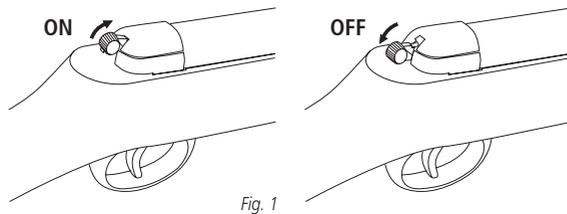

Fig. 1
- To set the safety to 'ON', push safety button upwards. In this position, the trigger cannot be pulled and the rifle cannot be shot. (Fig.1)
- To remove the safety to 'OFF', pull safety button downwards. In this position, the rifle is ready to shoot. (Fig. 1)